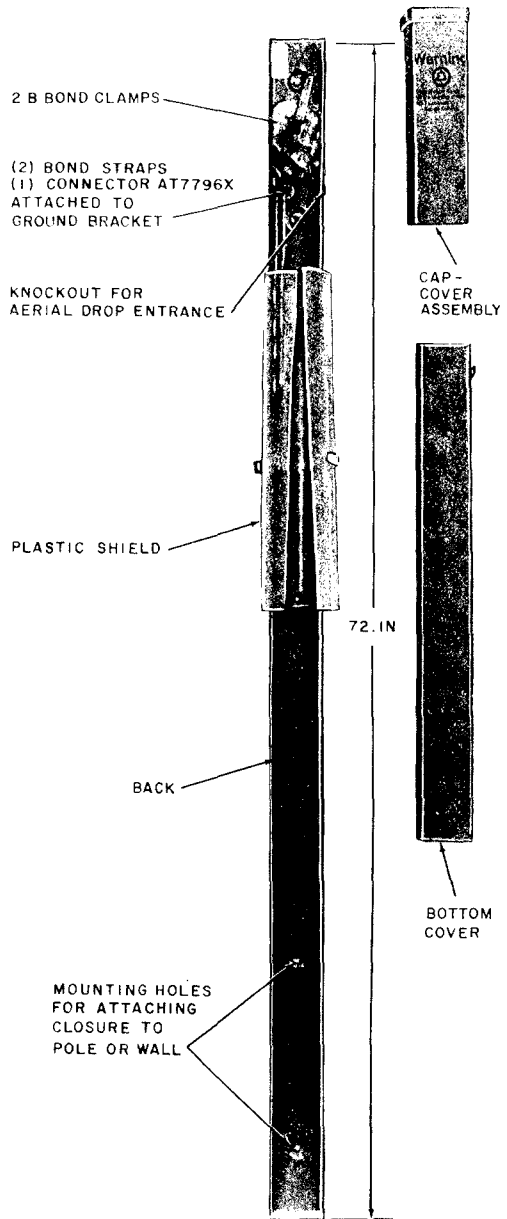

Fig. 1—RC4/72 Cable Closure
2.01 The RC4/72 cable closure is illustrated in Fig. 1. It can be mounted either free standing or on the base of a pole or wall.